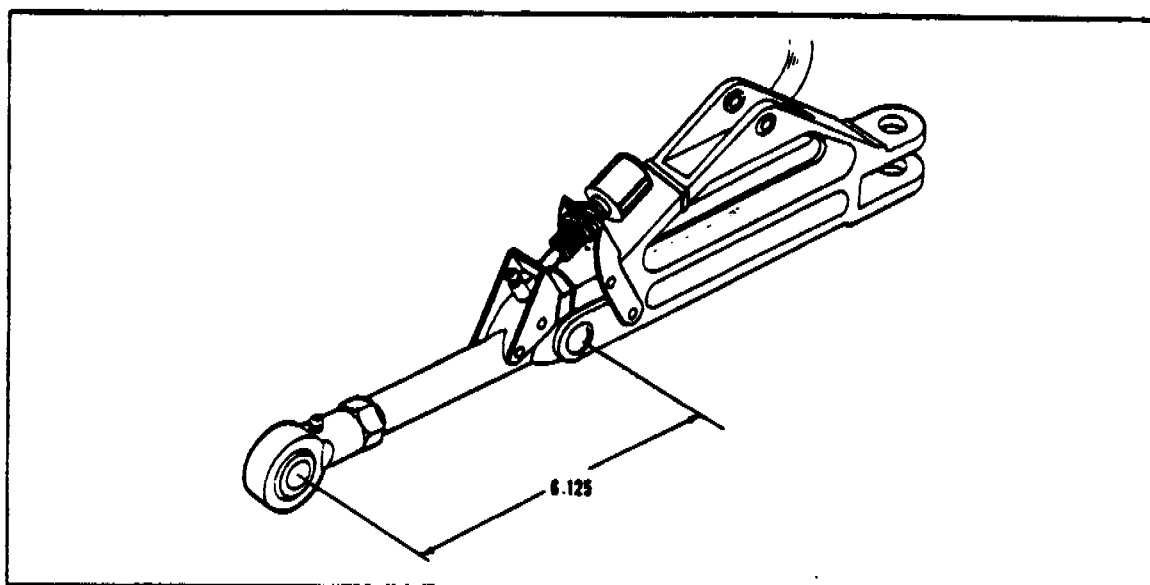

FIGURE 6-10. ADJUSTMENT OF MAIN LANDING GEAR DRAG LINK
2. Slide the barrel nut (47) into the forward strut arm and insert the attaching bolt (49) with washer through the fitting into the arm.
4. Secure the aft support fitting (11) to the rear spar web with attaching bolts, washers and nuts.
6. Using the access hole behind the rear spar, insert the bungee tube (10) with washer (44) (0.125, P/N 14843-20) through the rear support fitting and into the rear strut arm using enough shim washers (12) between the rear support fitting and the strut arm to diminish end play of the strut housing. (Shim washers are available in sizes 0.035, P/N 19513-10; 0.062, P/N 14843-93; and 0.125, P/N 14843-20.)
7. Position the side brace support bracket (22) on the main spar web and secure with bolts and washers.
- c. Assemble the upper and lower drag links (24 and 27) with pivot bolt (26).
- d. Adjust the lower drag link to a dimension of 6.125 inches from center of the middle pivot bolt to center of the rod end bearing. (Refer to Figure 6-10.)
- g. Check for clearance between drag link middle pivot bolt head (26) and the main gear capstrip, and binding of the lower drag link and bearing by retracting and extending the gear by hand. If clearance is less than 0.062 of an inch between pivot bolt head and spar capstrip, additional shims (17) must be added between the strut arm and front support bracket.
- h. Install studs (14) in rear strut arm and safety with minimum 0.041 (Spec. MS20995C41) wire (13).
- i. Install barrel nut (46) in rear strut arm and insert bolt (9) with washer through bungee tube and tighten.
6-34. Adjustment Of Main Gear Side Brace Links. (Refer to Figure 6-10.) Disconnect the side brace link from the main gear strut housing, and adjust to maintain a distance of 6.125 inches between the center of the pivot bolt which attaches the upper drag link to the lower drag link and the center of the rod end bearing.